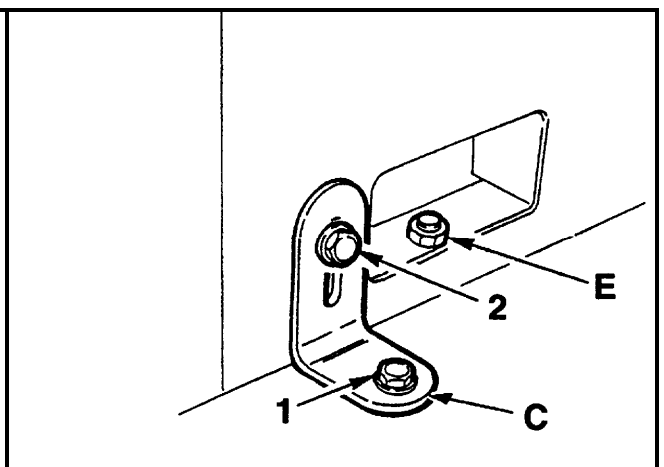

Fig. 05-04
- Check the level again, if necessary turn the adjusting grub screws "A", then secure them with the lock nuts "E"- **Fig. 05-04**
- First lock screws "1" that secure the brackets "C" to the ground then screws "2" that fix the same brackets to the machine (**Fig. 05-04**).